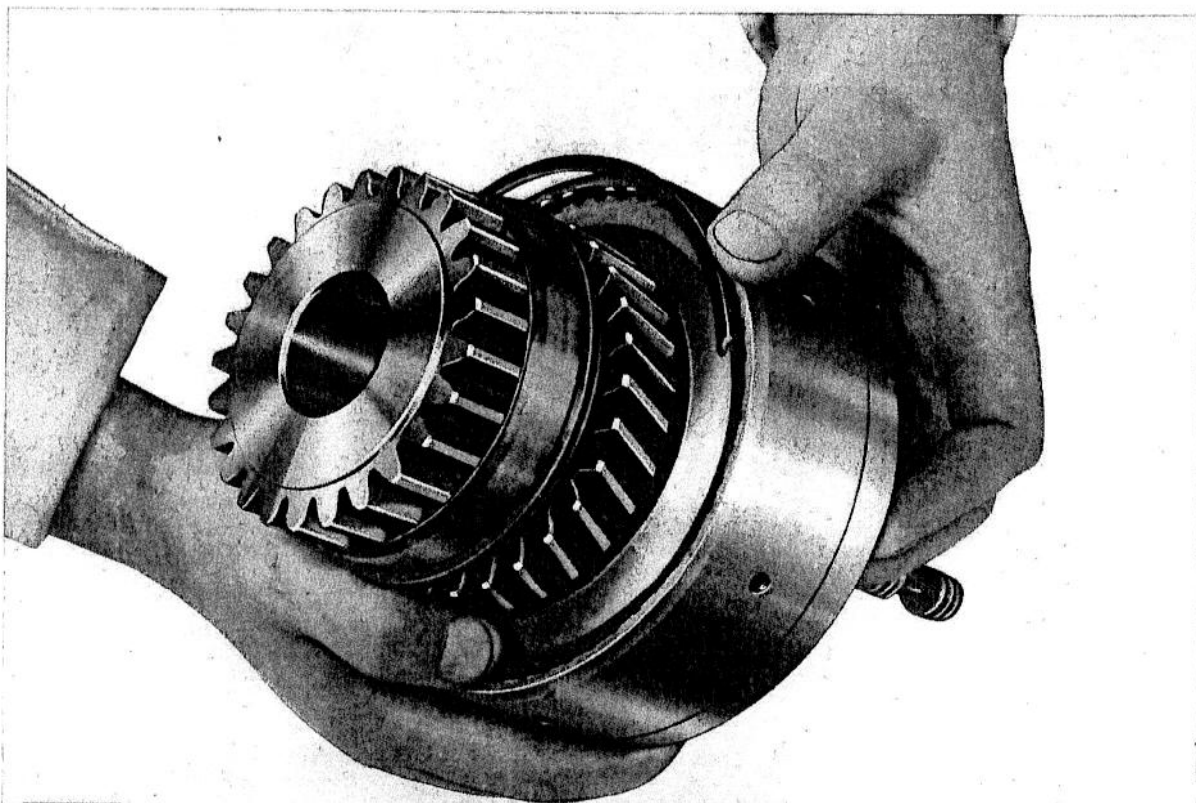

FIG. 26
14. (Fig. 26) Turn the assembly over and fit the large circlip to retain the clutch cover.